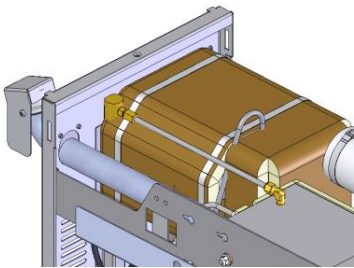

Fig. 5: Attach insulation on 250T3
7. Attach insulation and mounting straps as shown in Fig. 5.